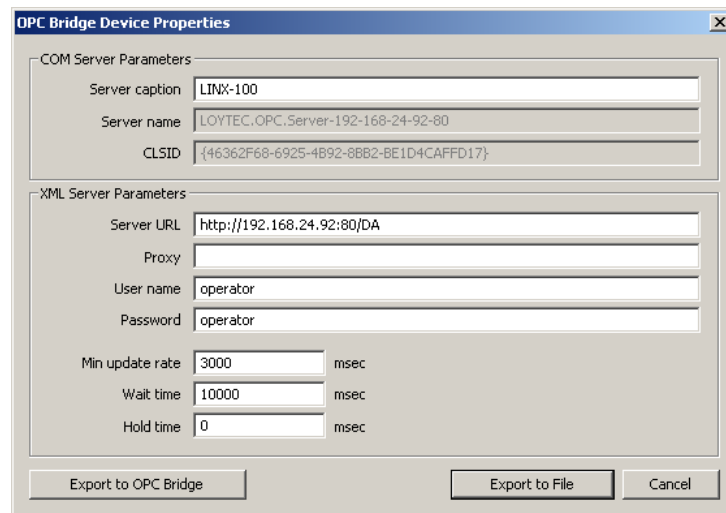

Figure 162: Bridge Export dialog.
4. In the **OPC Bridge Device Properties** dialog as shown in Figure 162, add information which is not default, i.e., Min update rate, Wait time and Hold Time (see Section 9.3.6). If the operator user has a non-default password, enter the password.